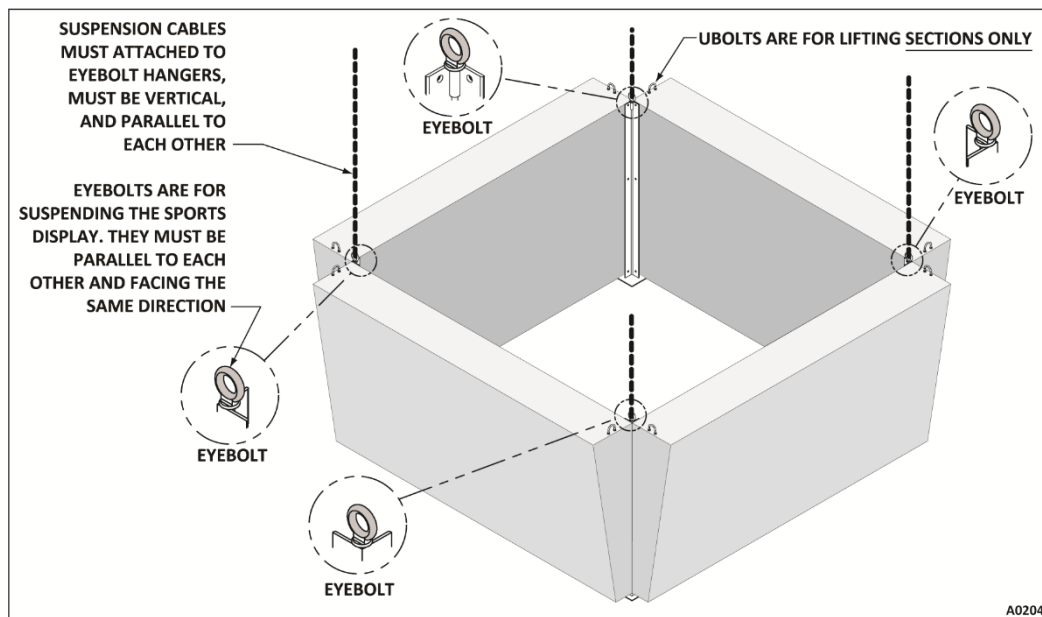
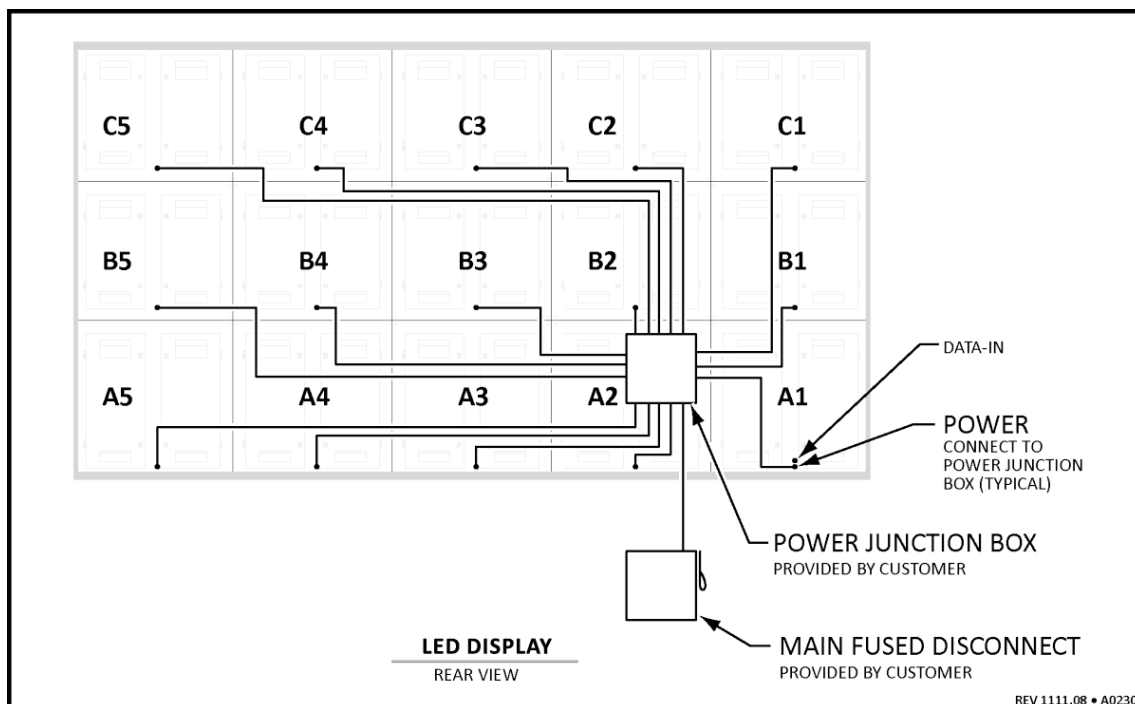

FIGURE 19 – FOUR-SIDED LED DISPLAY
FIGURE 24 — POWER CABLE CONNECTIONS
- Two (2) suspension cables are required for each LED display or
- Four (4) suspension cables are required for a four (4) sided LED display. Refer to Figure 19 below.
4. All eyebolts must be parallel to each other and facing the same direction. See Figure 19 below.
5. A maximum of two (2) lightweight pendant signs of the Fair-Play PDI-XXXX model series are permitted to be attached to a suspended LED display.
- All data cable wires must be routed and reconnected to operate all sections. Refer to Figure 24 on page 28 and Figure 19 on page 24.
The customer must provide a fused disconnect for the LED display that is easily accessible and is within sight of the LED display. Refer to Figure 24 below.